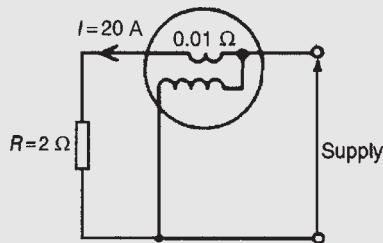

Figure 10.13
**Problem 6.** (a) A current of 20 A flows through a load having a resistance of  $2\Omega$ . Determine the power dissipated in the load. (b) A wattmeter, whose current coil has a resistance of  $0.01\Omega$  is connected as shown in Fig. 10.13. Determine the wattmeter reading.
2. (a) A current of 15 A flows through a load having a resistance of  $4\Omega$ . Determine the power dissipated in the load. (b) A wattmeter, whose current coil has a resistance of  $0.02\Omega$  is connected (as shown in Fig. 10.13) to measure the power in the load. Determine the wattmeter reading assuming the current in the load is still 15 A.